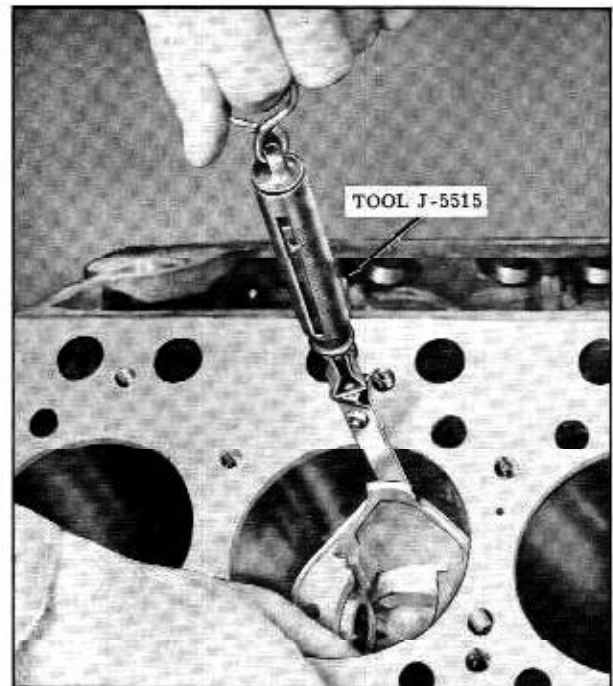

Fig. 8-25 Fitting Piston to Cylinder
1. Place a 1/2" x 12" x .0015" ribbon attached to scale J-5515 against the upper side of the bore, at 90° to the normal piston pin location. (Fig. 8-25)